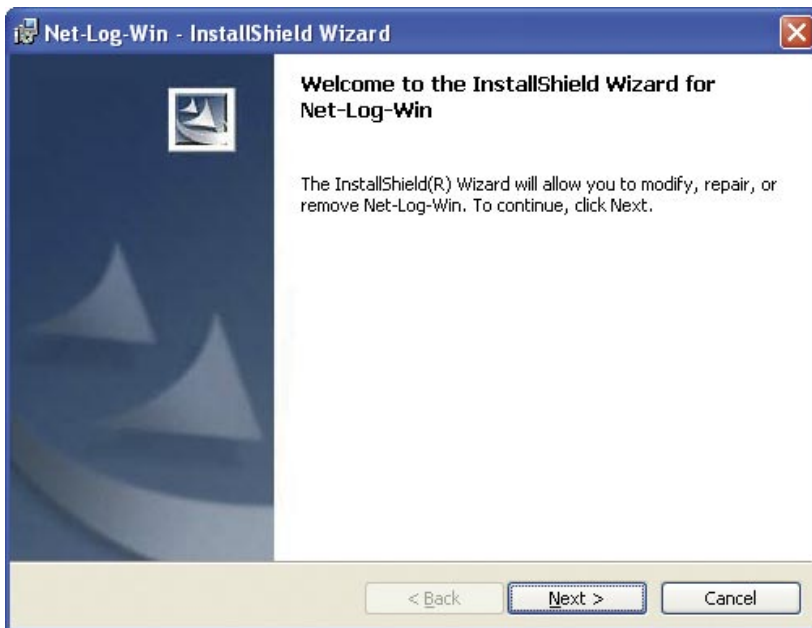

Fig 3-4 : Net-Log-Win Installation.
- 3 The installation starts by displaying a web page that has links to several software packages from Sonifex. Locate Net-Log-Win from the list and click on the link provided. The Net-Log-Win installation will begin as shown in Fig 3-4. Simply follow the on screen instructions to proceed. During the installation, Set-up will attempt to detect what version, if any, of DirectX is installed. DirectX is required for audio playback and Net-Log-Win requires that version 6 or later is installed. If a compatible version is not found, then the supplied DirectX 8.0 will be automatically installed.